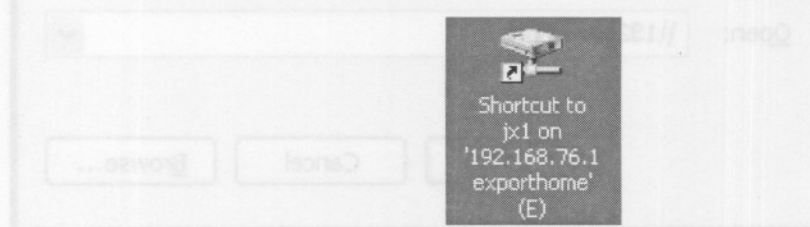
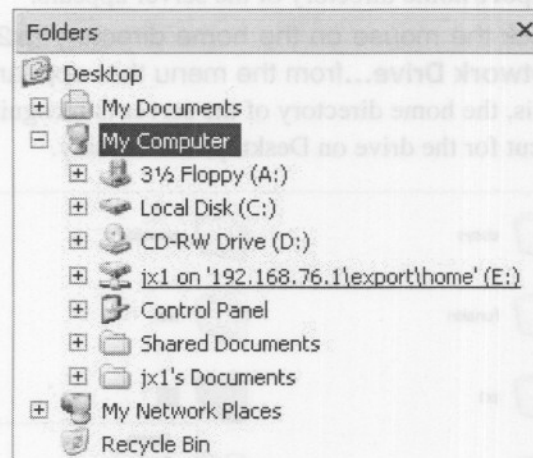

Fig. 5.71 Shortcut icon
Fig. 5.72 Explorer
1. Double-click on the **Shortcut to jx1** icon on the Desktop, or use Explorer to select the drive (☞ Fig. 5.71, Fig. 5.72) that mounts jx1.